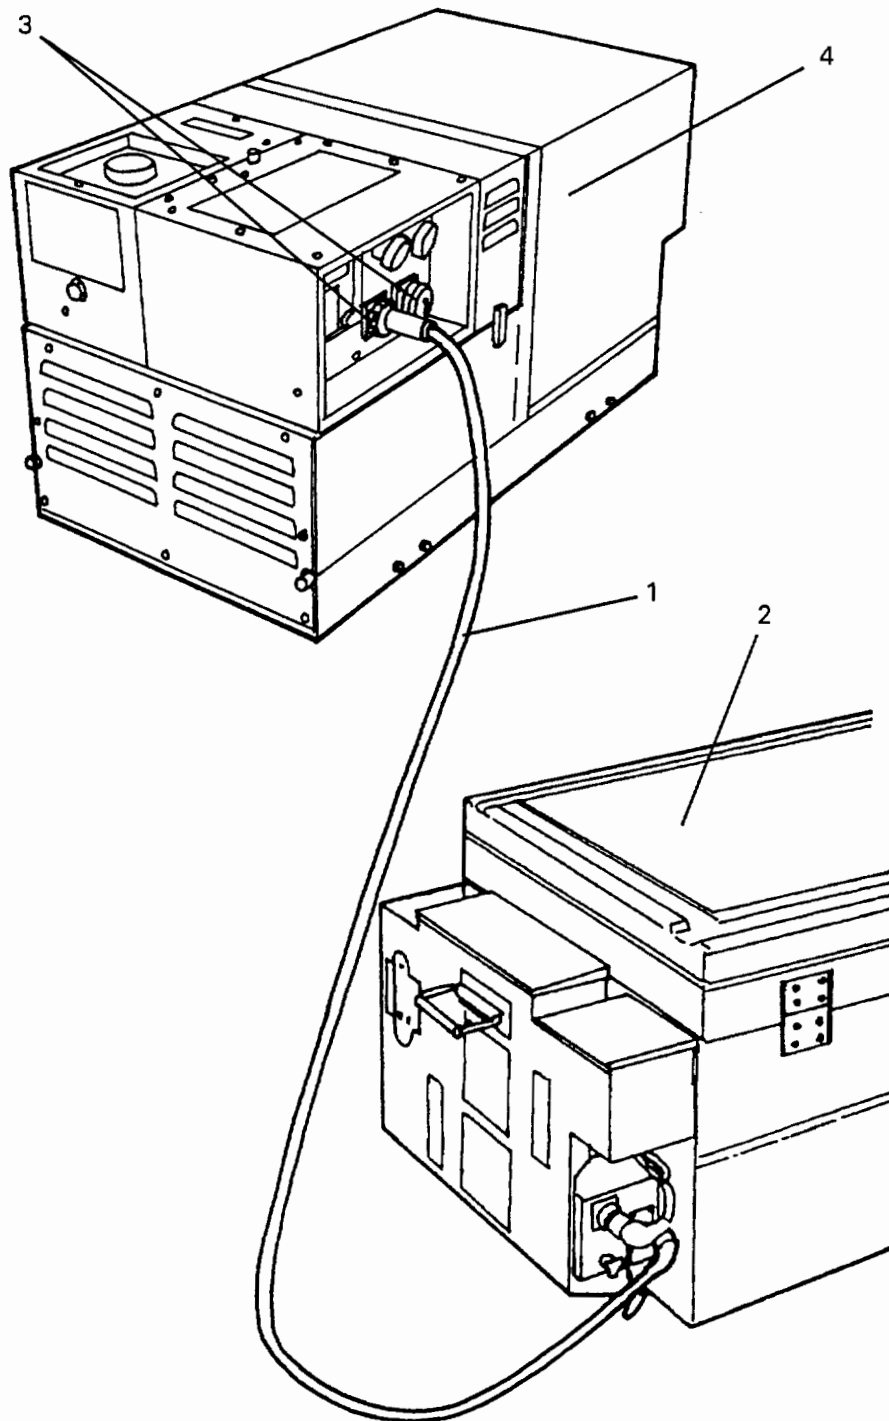

Figure 3-4 — Battery Charger Power Cable
307. Connect the extension cable (1) from the blood refrigerator (2) to either power outlet (3) on the battery charger (4) (Fig 3-4).